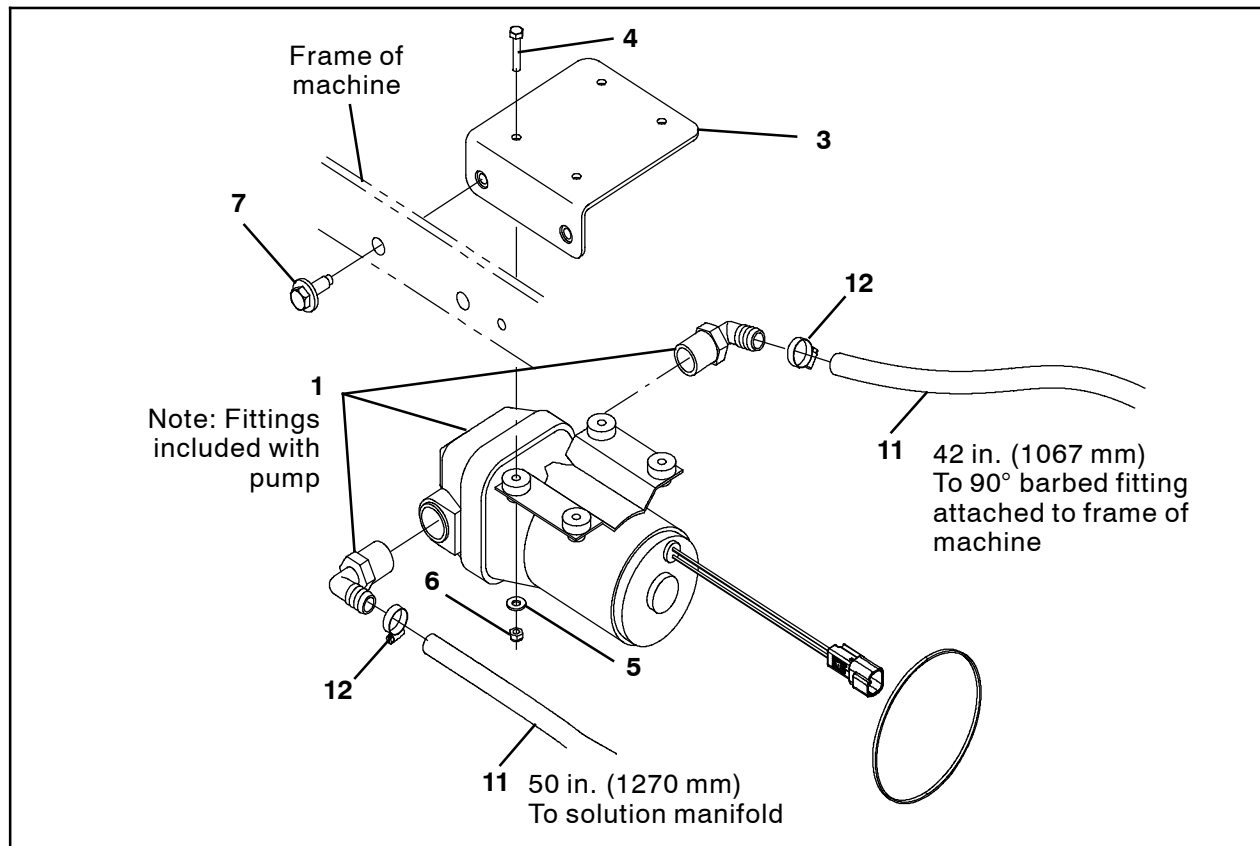
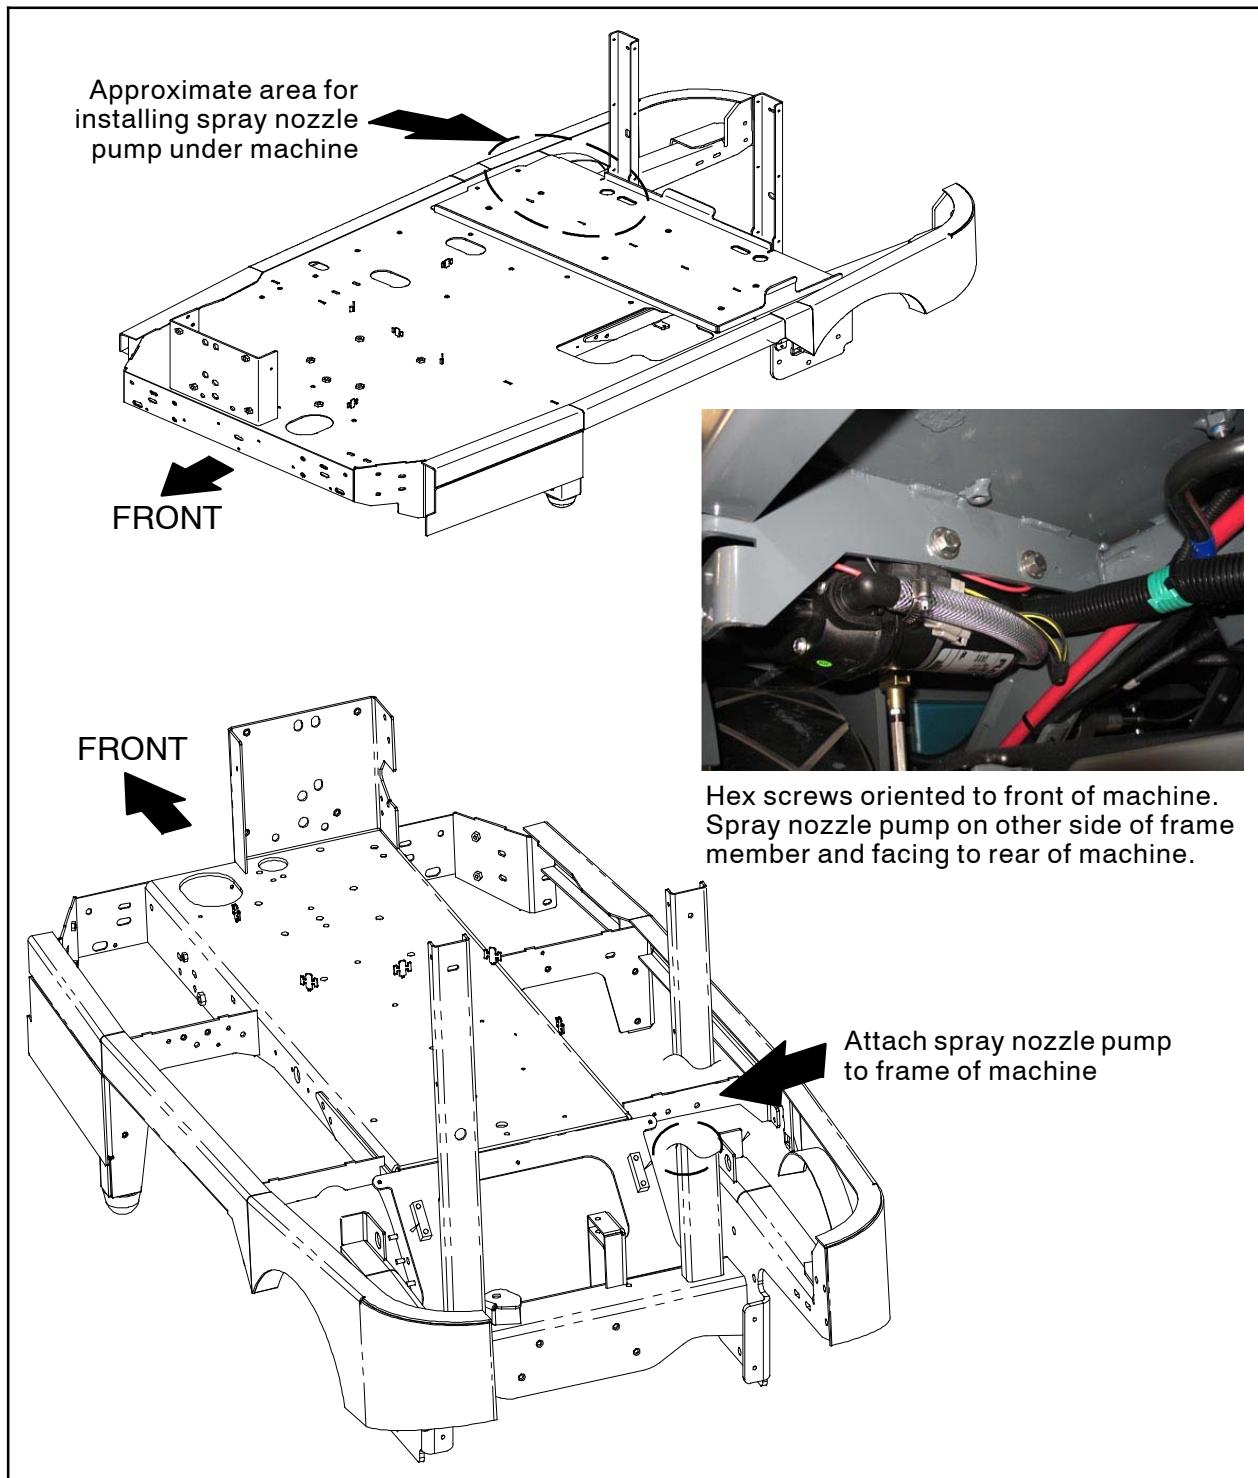
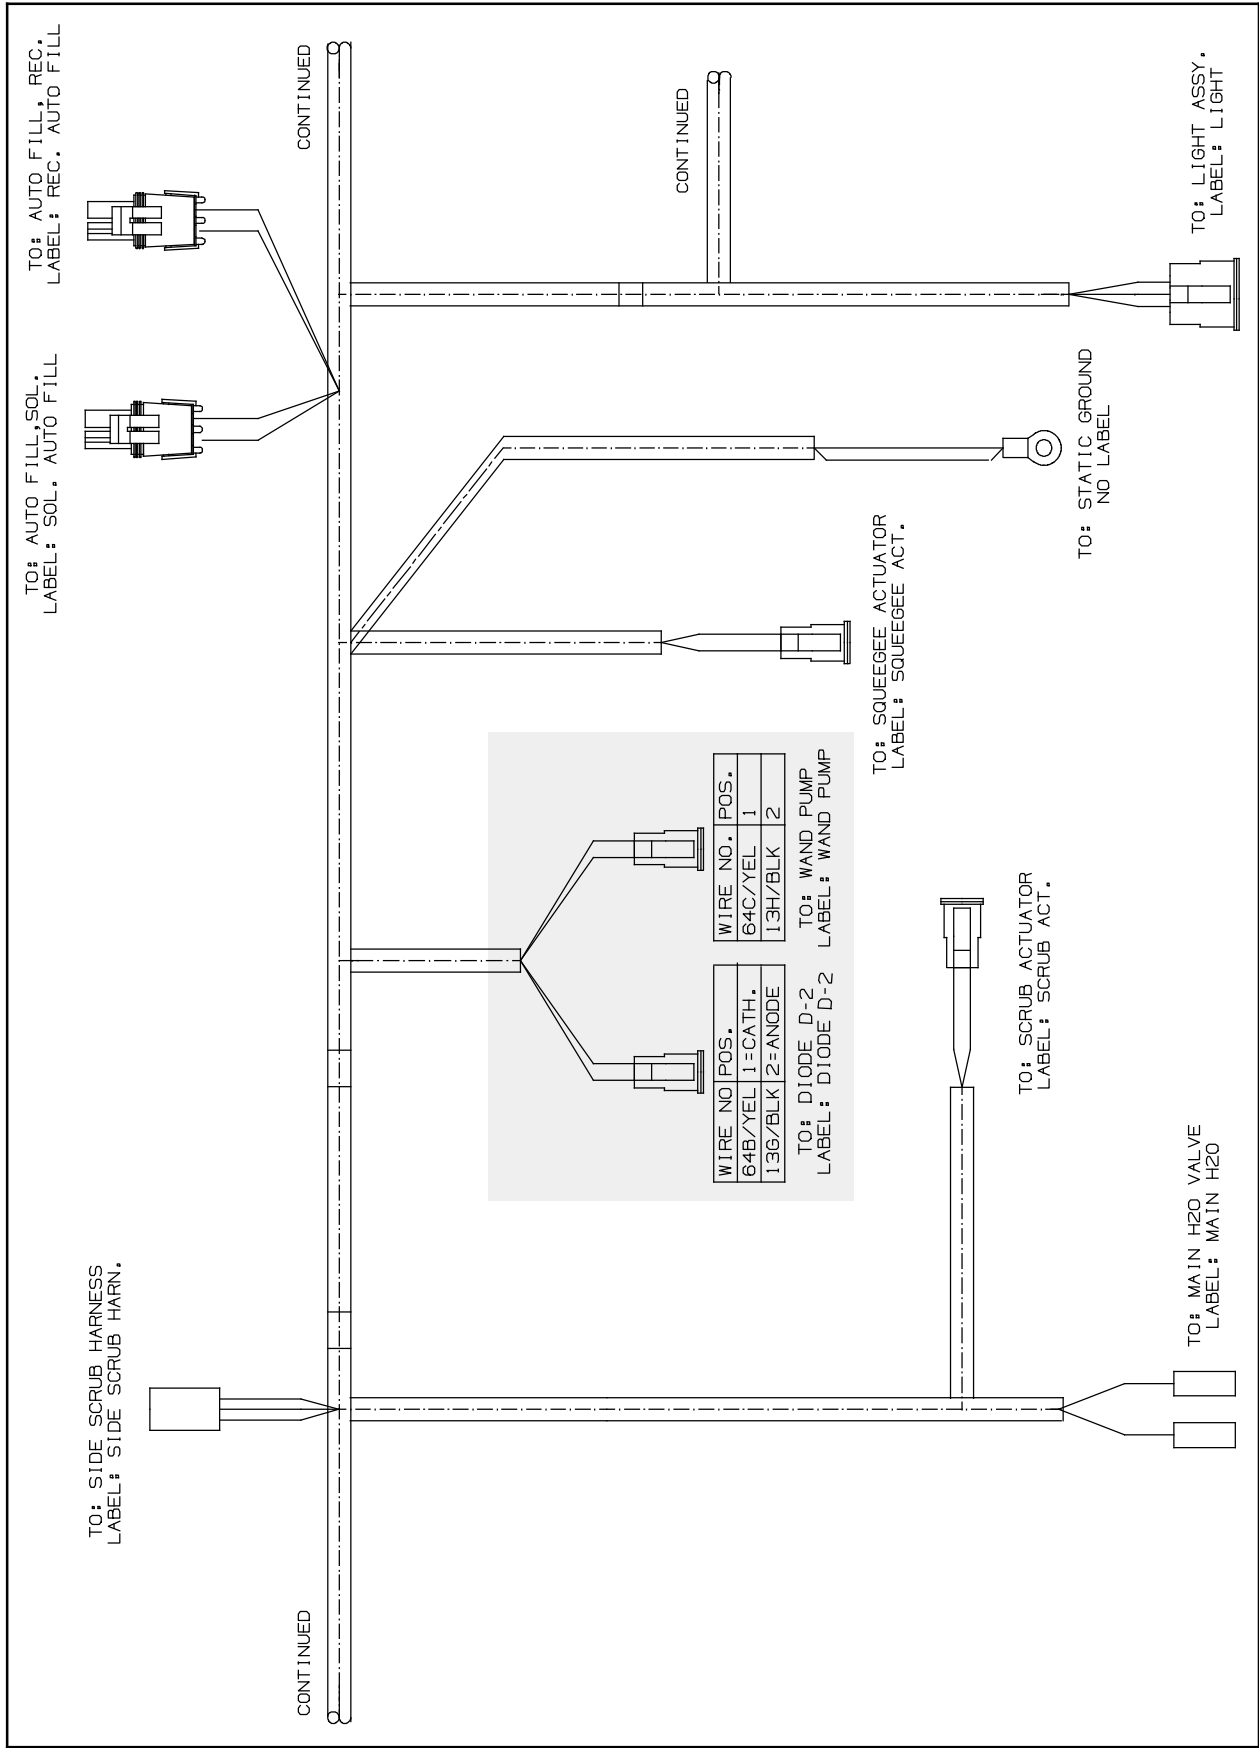

FIG. 1
FIG. 2
FIG. 3
1. Use four M5 hex screws (4), four flat washers (5), and four M5 hex nuts (6) to install the spray hose pump bracket (3) onto the solution pump (1). (Fig. 1)
2. Install fittings included with the solution pump (1) onto the solution pump. (Fig. 1)
3. Cut a 42 in. (1067 mm), 50 in. (1270 mm), and 36 in. (914 mm) length of hose from the 144 in. (3657 mm) hose (11).
4. Use a hose clamp (12) to install the 42 in. (1067 mm) PVC hose (11) and 50 in. (1270 mm) PVC hose (11) onto the fittings installed on the solution pump (1). (Fig. 1)
5. Set the 36 in. (914 mm) hose (11) aside.
6. Use two M8 SEMS hex screws (7) to install the pump assembly assembled in the previous several steps onto the frame of the machine. (Fig. 2)
7. Connect the main wire harness to the solution pump (1). (Fig. 1 / Fig. 2 / Fig. 3 / Fig. 12)
8. Connect the diode (2) to the main wire harness. (Fig. 3 / Fig. 12)